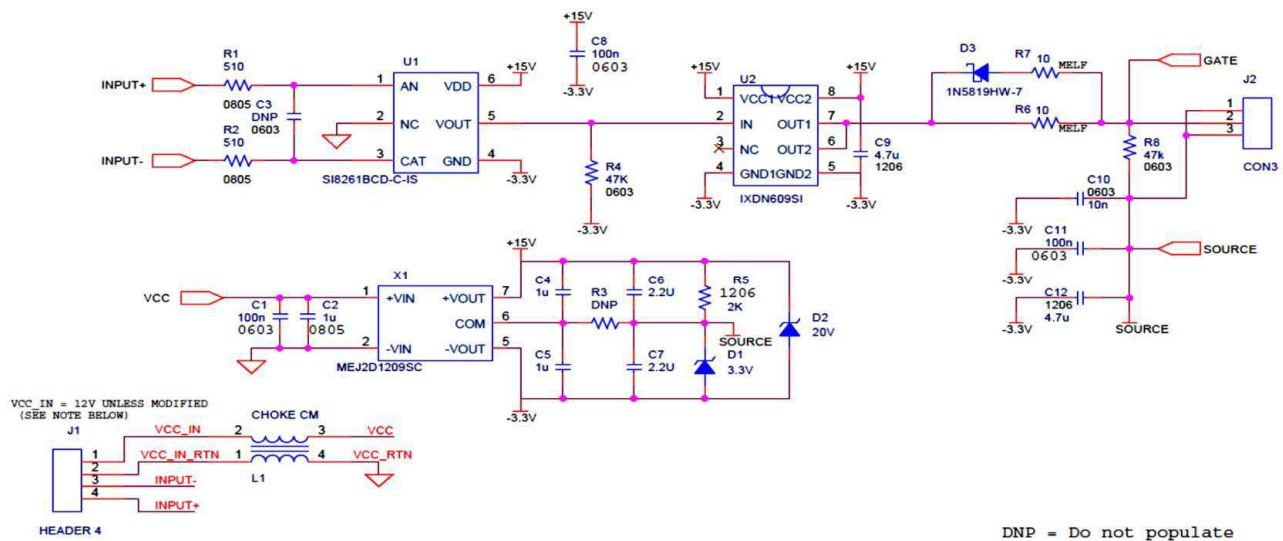

Figure 7: Schematic of CGD15SG00D2 gate driver board
X1 gets 12V input and with the help of a Zener diode (as shown in Figure 7) at the output, X1 gives a dual output of +15 V (turn-on signal) and -3.3 V (turn-off signal). Gate resistors R6 and R7 and a diode D3 (as shown in Figure 7) have been provided for gate turn-on and gate turn-off signals. These gate resistors R6 and R7 are metal electrode leadless face (MELF) 207 packages with a power rating of 0.4W.
To minimize stray inductance and achieve tight coupling, capacitors C10-C12 (as shown in Figure 7) have been placed very close to the source output pin. Specified operating conditions for CGD15SG00D2 gate driver board are shown in Table 2.
Detailed schematics are shown in Figure 7.
- Biasing input (VCC) (as shown in Figure 7) needs to be set at 15V instead of 12V.
- The 3.3V Zener diode (D1) (as shown in Figure 7) that sets the negative bias voltage must be removed.